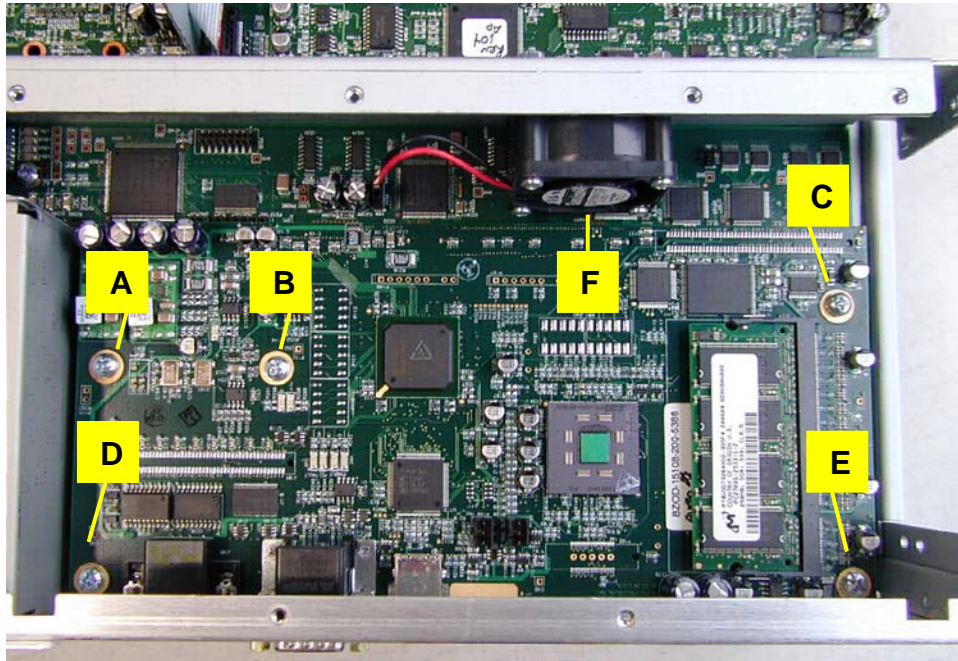

Figure 5 BZOD module screws
19. Locate and remove the five screws that secure the BZOD module as shown in figure 5 (Points A, B, C, D, & E). Save the screws for the installation of the new BZOD module.